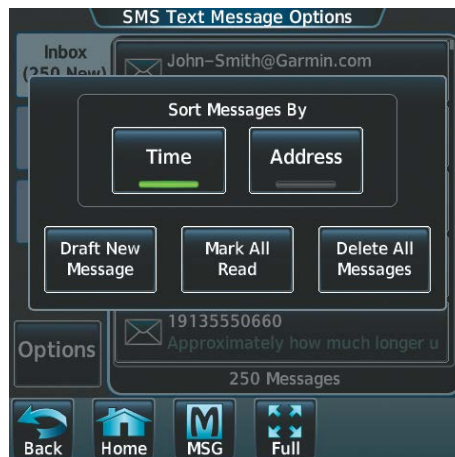

Figure 8-102 Message Sort Options
- 2) Touch the **Options** Tab. The 'Sort Messages By' selections are displayed as in Figure 8-102.
- 2) Touch the **Options** Tab. The selection buttons are displayed as in Figure 8-102.